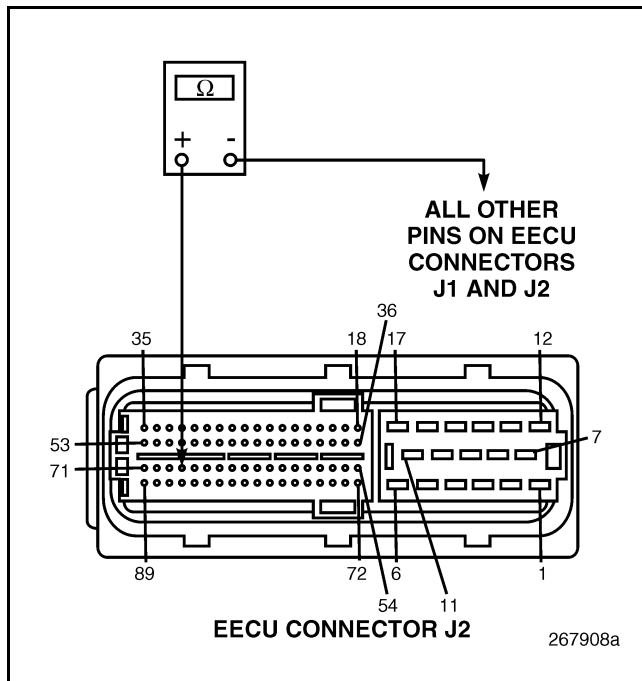

Figure 88
4. Check for continuity between EECU harness connector J2 pin 68 and all other pins on EECU connectors J1 and J2 (see Figure 88).